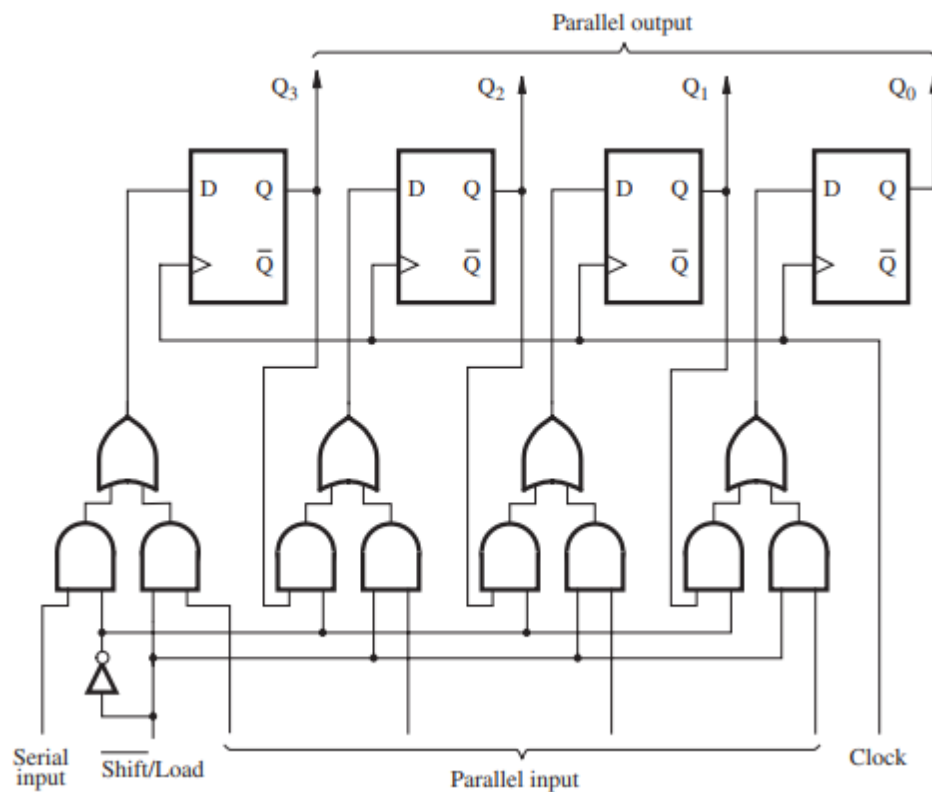

Fig.5.7: Parallel access shift register
- Assume that we wish to write Verilog code that represents the four-bit parallel-access shift register in Fig5.7